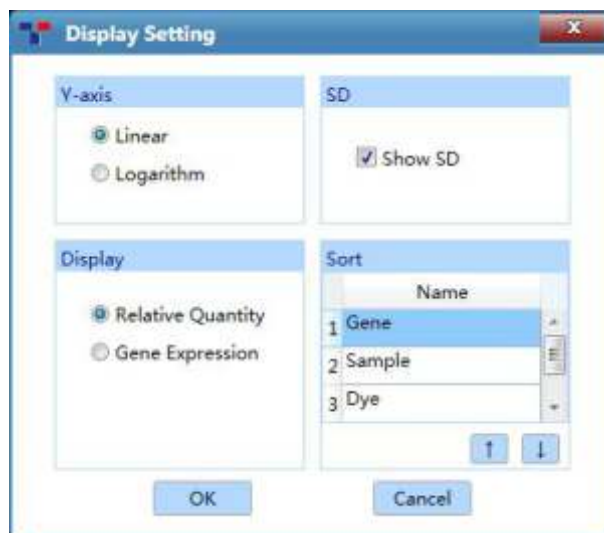

Figure D-11.2 Rel Quant interface - Display Setting window
- < **Display Setting** >: users can click < **Display Setting** > icon and the application software will automatically pop up the display setting window, as shown in figure D-11.2.